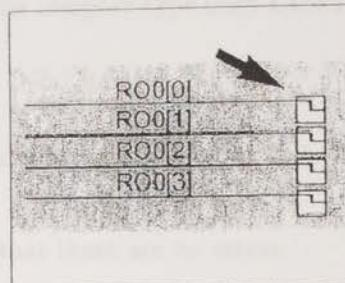
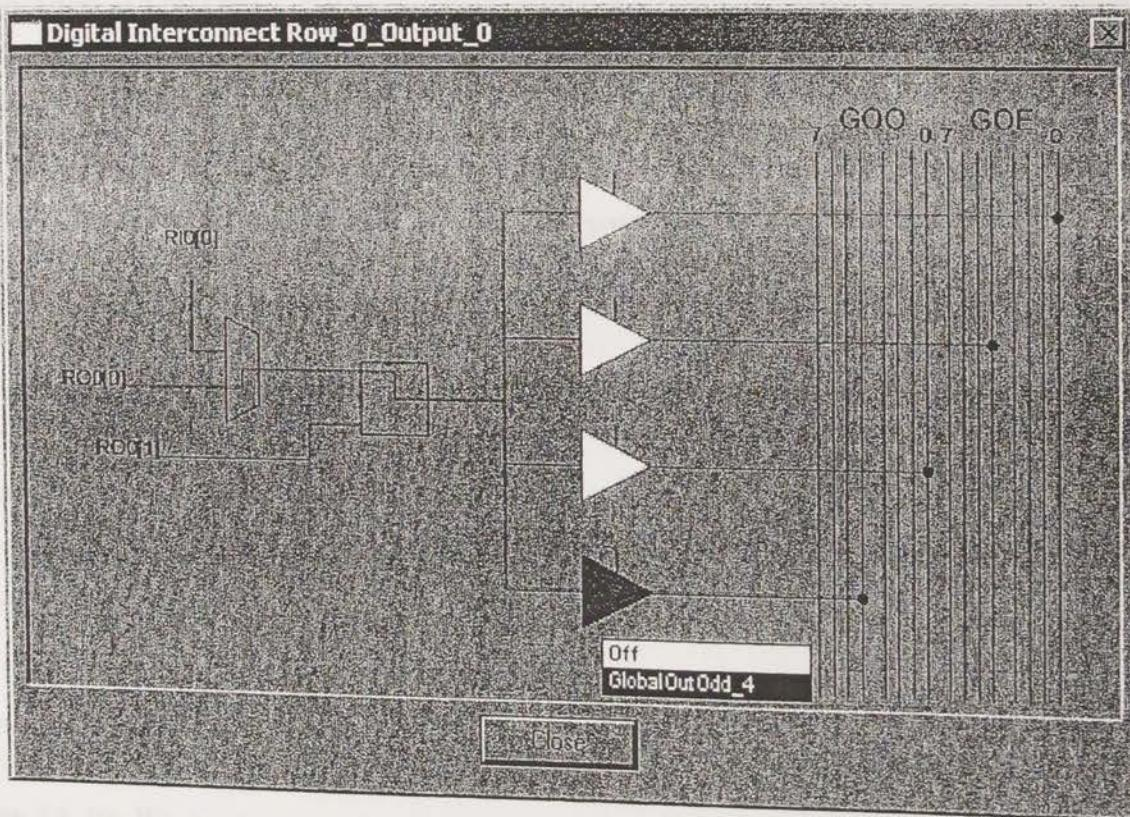

Figure 1.22: Location of Digital Interconnect click box.
Figure 1.23: Digital Interconnect Row Output.
- At the far right of RO0[0] is a box, as shown in Figure 1.22. Clicking on this box opens the window shown in Figure 1.23.